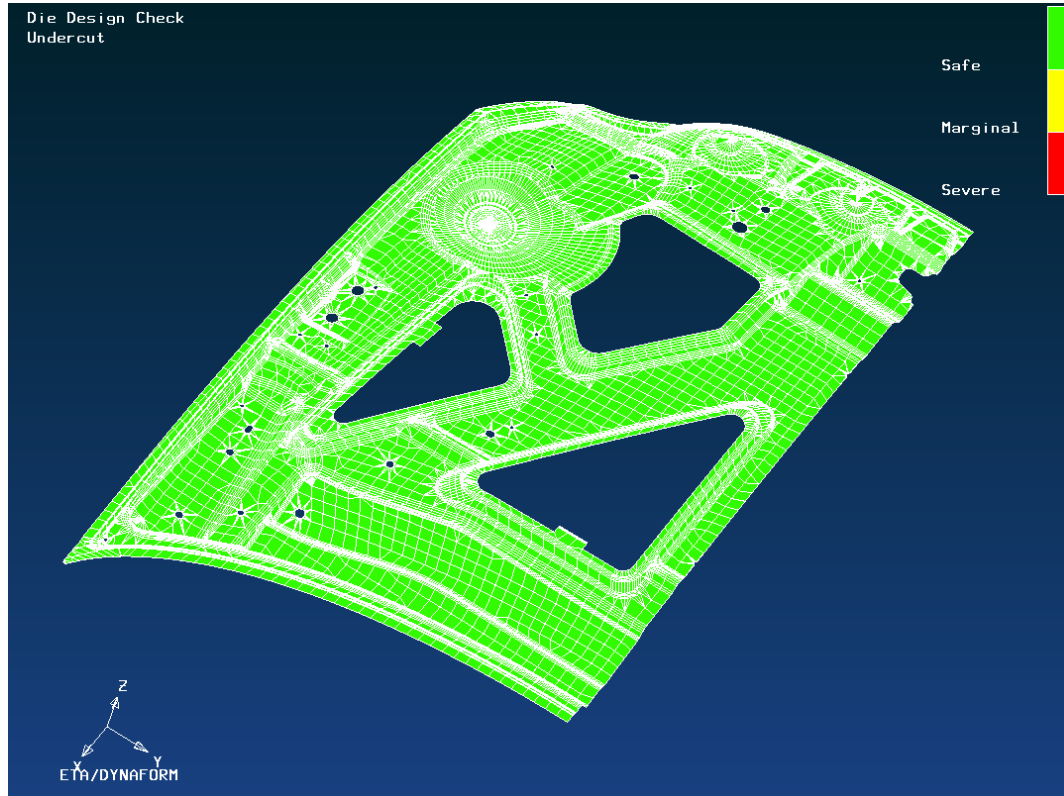

Figure 14 Illustration of Undercut contour display
5. Toggle on **Undercut** option in the **Tipping** dialog box to display the undercut contour in the display area, as illustrated in Figure 14.